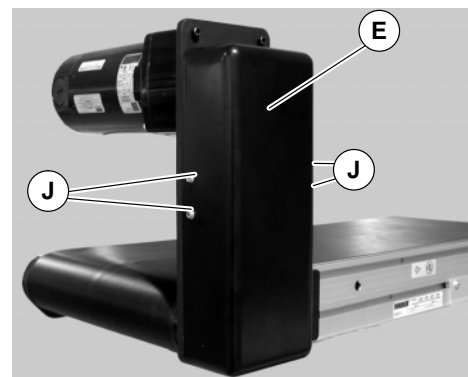

Figure 9
- Install cover (E of Figure 9) with four (4) screws (J). Tighten screws to 35 in-lb (4 Nm).
1. Remove four (4) screws (J of Figure 9) and remove cover (E).
4. Install cover (E of Figure 9) with four (4) screws (J). Tighten screws to 35 in-lb (4 Nm).
6. Install cover (E of Figure 9) with four (4) screws (J). Tighten screws to 35 in-lb (4 Nm).